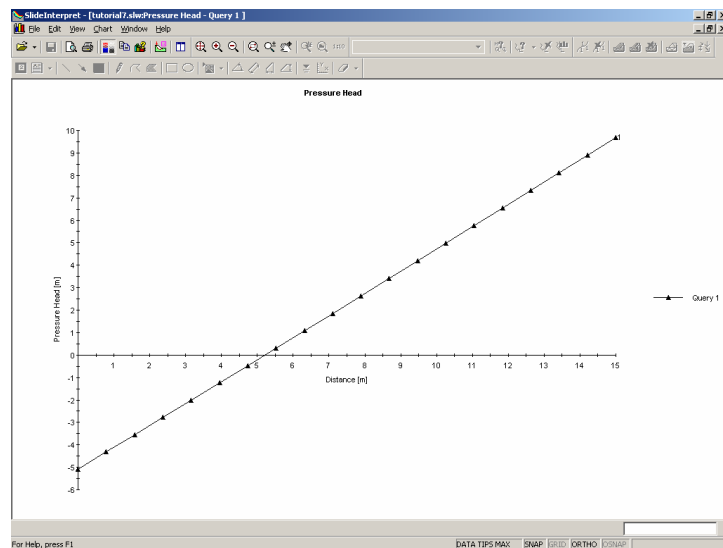

Figure 8-8: Query of Pressure Head data.
8. A shortcut to graph data for a single query, is to right click the mouse ON the Query line. Do this now, and select Graph Data from the popup menu. A graph will be immediately generated, as shown in Figure 8-8.